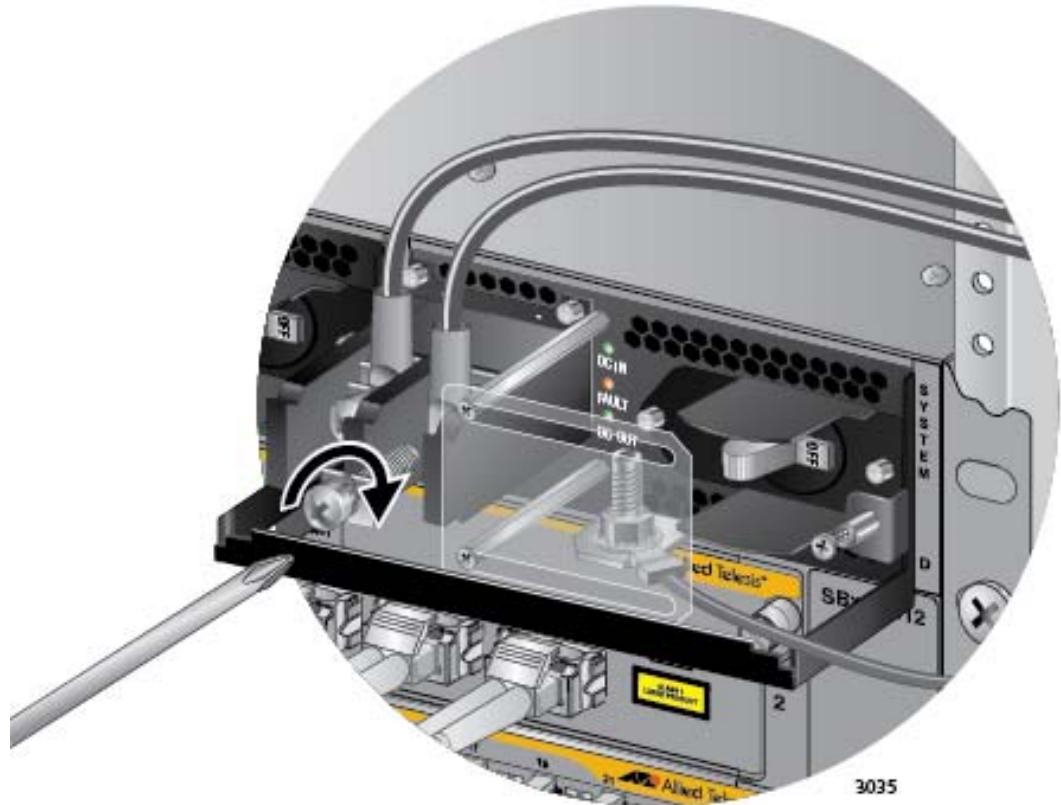

Figure 111. Connecting the Negative (-) Power Wire with a Straight Terminal
7. With a #3 Phillips-head screwdriver, connect the negative (-) power lead wire to the negative terminal on the power supply, with the remaining terminal screw removed in step 5. The negative terminal is on the right. You may attach the terminals with the wires either above or below the terminal block. Figure 111 on page 173 shows the wires above the terminal block.